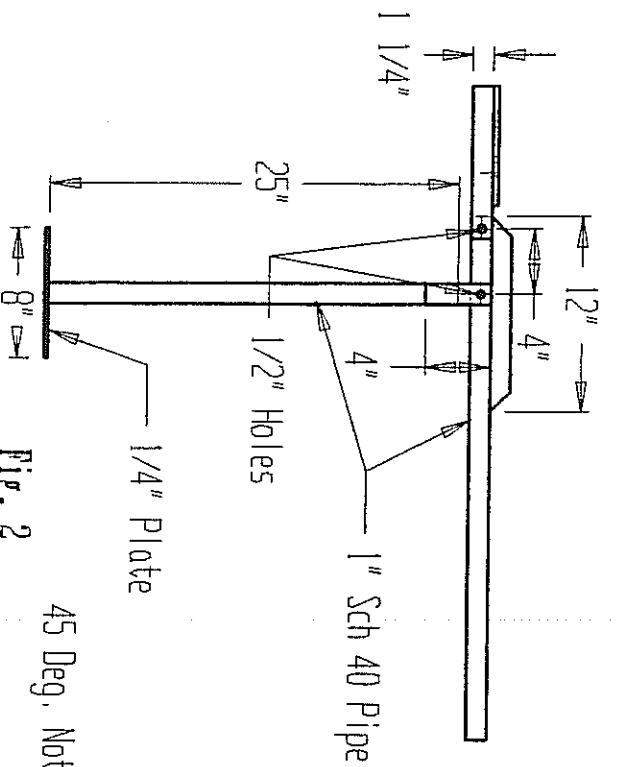

Fig. 2
13. Assemble sign post as shown in fig. 2, tack, then weld.